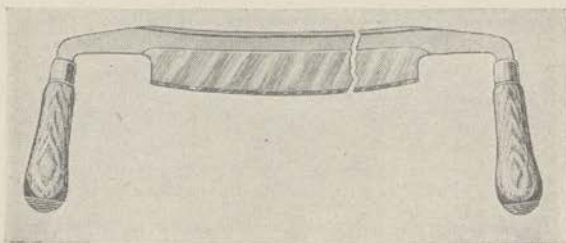

FIGURE 43.—Drawknife.
(5) There are many types of special-purpose planes for cutting grooves and moldings, as well as a router plane, which projects a blade as much as half an inch below the plane bottom to smooth the bottom of a groove or other depression. The commonest of the special planes is the "rabbet," or "rebate," plane, which planes in corners and cuts grooves, steps, or laps in the edge of a board.
i. *Drawknife and spoke shave.*—(1) The drawknife (fig. 43) consists simply of a large, sharp-edged blade having at each end a handle